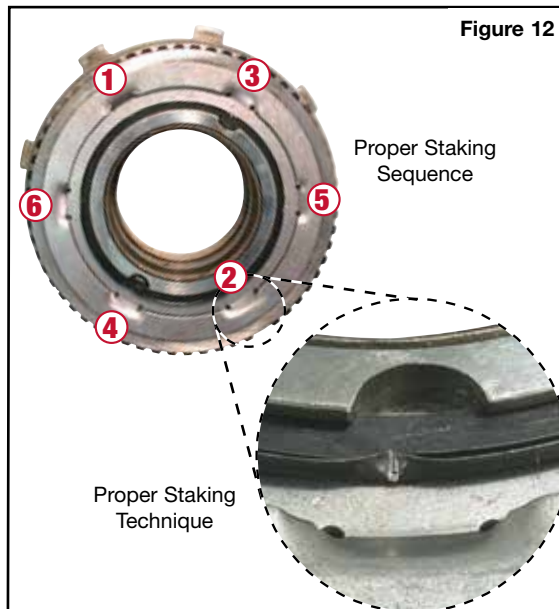

Figure 12
d. Stake the locking ring in six equally spaced places around the outside as shown (Figure 12).